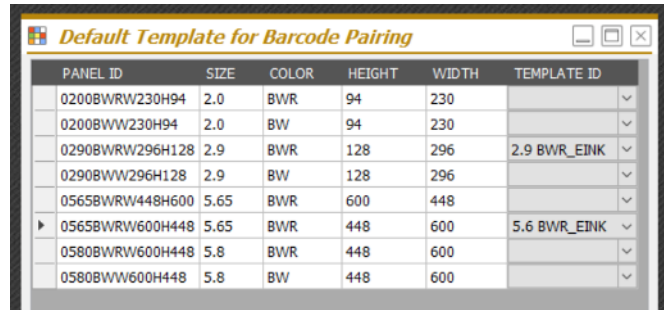

Fig. 9
4. Select the **Edit** tab; then select **Template** to open the *Default Template for Barcode Pairing* dialog box. This is a list of all display types available from American Bright Optoelectronics. Select the **TEMPLATE ID** that matches the **SIZE** and **COLOR** parameters of the two e-tags. See Figure 9. Close the *Default Template for Barcode Pairing* dialog box.